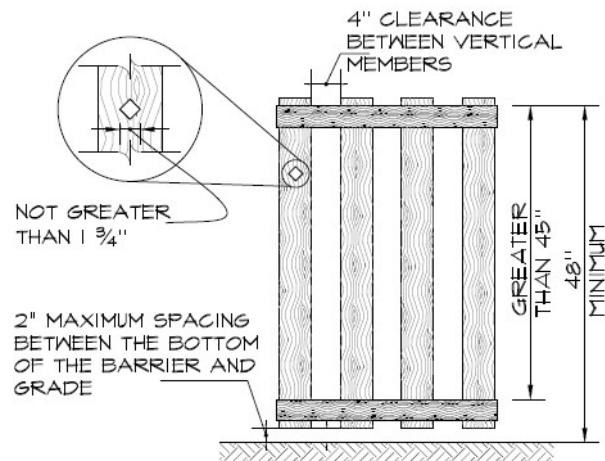

Figure 4
- Where the barrier is composed of horizontal and vertical members and the distance between the tops of the horizontal members is *45 inches or more*, spacing between vertical members shall not exceed 4 inches. Where there are decorative cutouts within vertical members, spacing within the cutouts shall not exceed  $1\frac{3}{4}$  inches in width. See **Figure 4**.